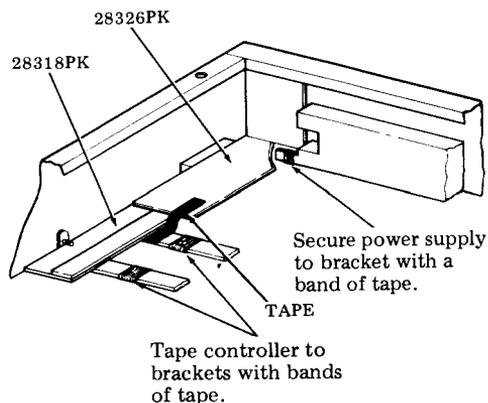

Fig. 8
4.04 Remove back panel of pedestal. Apply a band of tape around each of the three quarter turn fasteners and their respective mounting brackets. See Fig. 8.
4.06 Position a 28318PK wood detail at top inside of pedestal. Position a 28326PK corrugated detail in the pedestal to hold the wood detail in position and secure in place with a strip of tape. See Fig. 8.